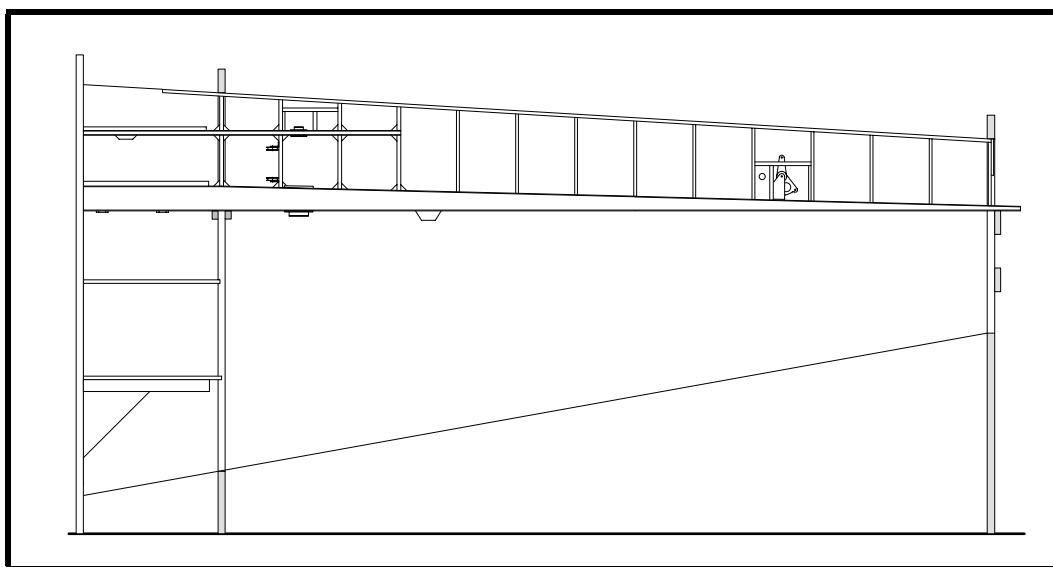

Figure 11
- ❑ Install the corner blocking for the leading edge ribs at Sta. 1 through 4. See Figure 11. These corner blocks may be continuous from the top of the wing to the bottom. This is the simplest installation, but it is also the heaviest. The best approach is to make the corner blocks so that they are the same thickness at the underlying rib capstrips. The corner blocks should be 25x25 triangles.
- ❑ Install the framing for the access door for the aileron bellcranks. See Figure 11. On the left side of the aircraft, install the extra block of spruce for the pitot tube as shown in Detail V Drawing No. 201 Sheet 4. Drill the hole required for the pitot tube plumbing and wiring.